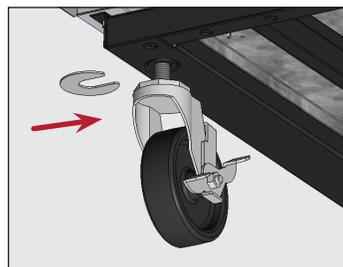

Fig. 9. Insert the castor shim(s), be sure to tighten the castor stem.
5. On the low end of the appliance, loosen the castor bolt enough to slide provided castor shims between the castor bearing and the bottom rail of the appliance. See fig. 9.
6. Install the desired number of shims. See fig. 9.